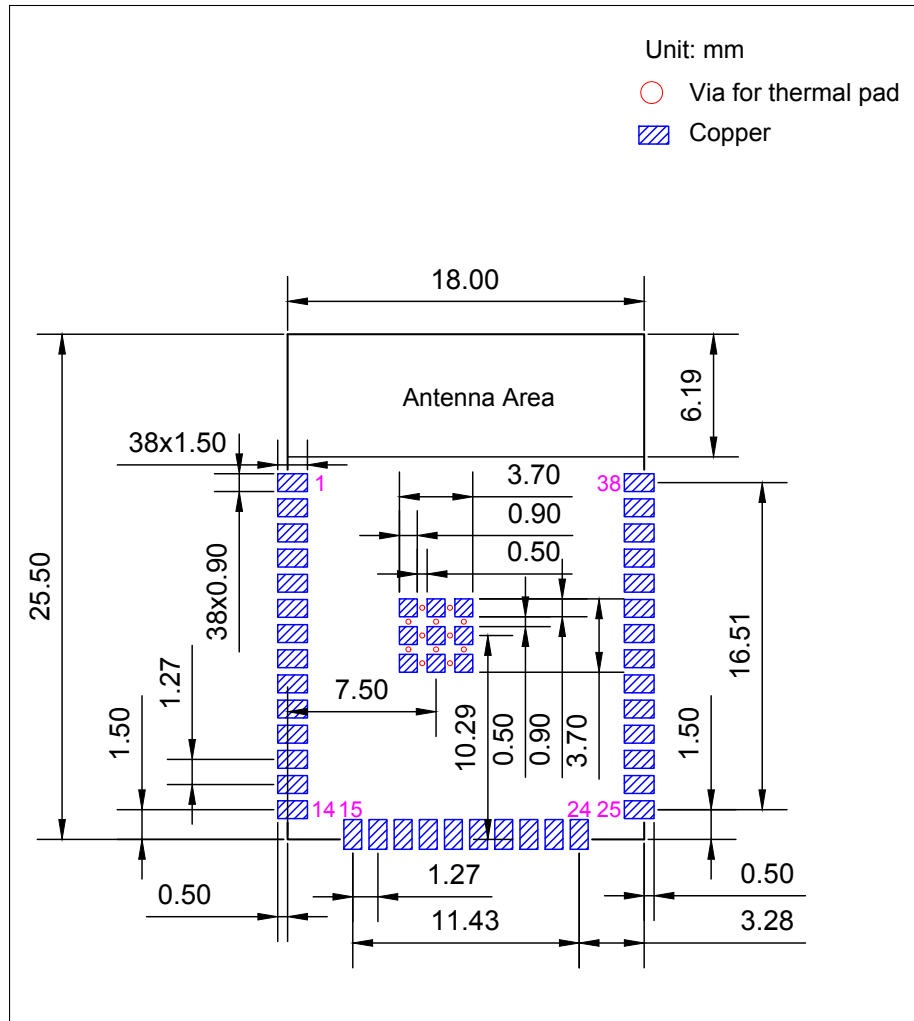

Figure 8: Recommended PCB Land Pattern of ESP32-SOLO-1
- Figures for recommended PCB land patterns with all the dimensions needed for PCB design. See Figure 8 *Recommended PCB Land Pattern of ESP32-SOLO-1*.
- Source files of recommended PCB land patterns to measure dimensions not covered in Figure 8. You can view the source files for ESP32-SOLO-1 with Autodesk Viewer.